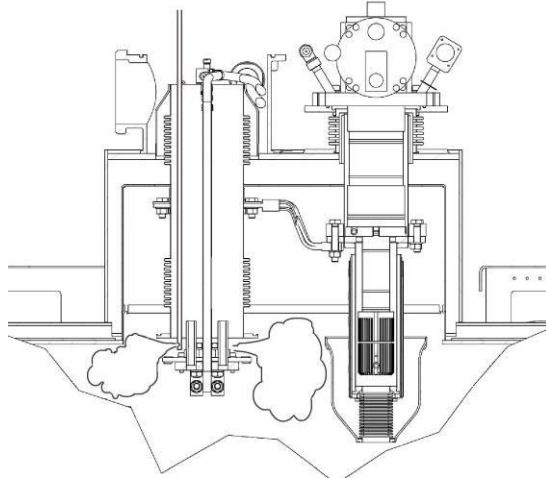

Figure 8-6 - 90/360 degree de-icing
3. Slide the helium fill guide tube (Figure 8-6) of the lead guide assembly over the alignment rod.